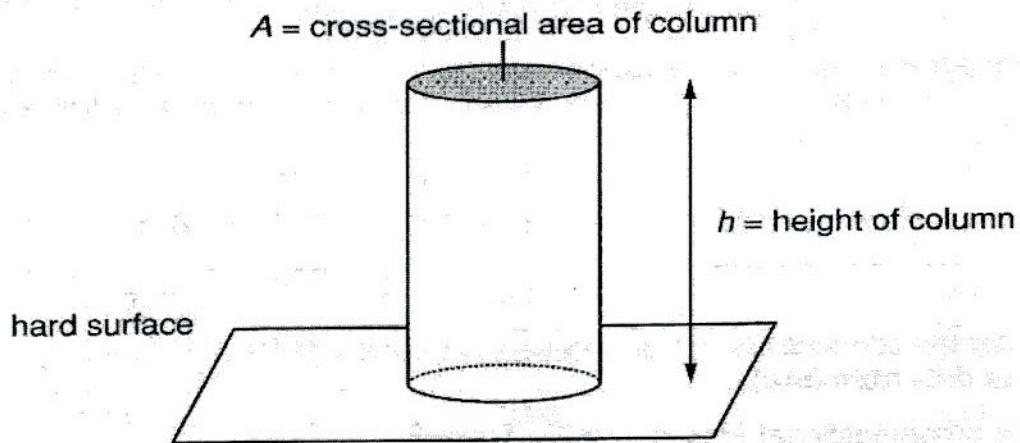

Fig. 10.1
Fig. 10.1 shows the stress against strain graphs to breaking point for samples of a pure metal and one of its alloys.
- (a) (i) Use data from Fig. 10.1 to calculate the Young modulus of the pure metal. Make your method clear.
(a) Fig. 10.1 shows a vertical column of a solid material.